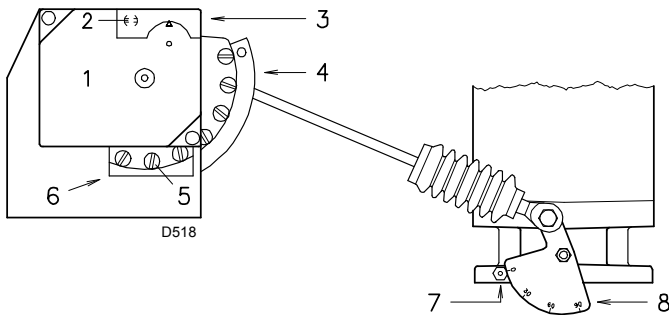

Fig. 27
Progressively adjust the starting profile of cam 4)(Fig. 27) by turning the screws working through the access hole 6)(Fig. 27). It is preferable not to turn the first screw since this is used to set the air damper to its fully closed position.
Progressively adjust the end profile of cam 4)(Fig. 27) by turning the cam adjustment screws as they appear through the access opening 6)(Fig. 27).
Press the key 2)(Fig. 26) "output increase" a little so that a new screw 5)(Fig. 27) appears in the opening 6)(Fig. 27).
Switch the burner off with the switch 1)(Fig. 26). Release the variable profile cam by putting the servomotor slot 2)(Fig. 27) in a vertical position and check more than once, rotating the cam forward and backward by hand, that the movement is soft and smooth, without sticking.